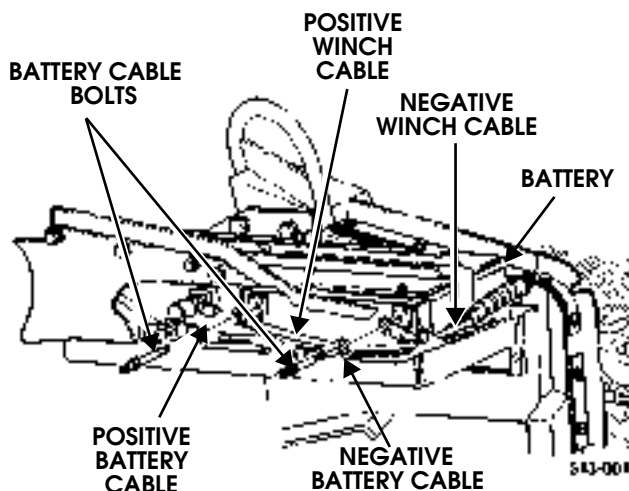

Figure 9-158: Winch Cables On Battery
2. Remove two battery cable bolts, battery cables, and winch cables from battery (Figure 9-158).